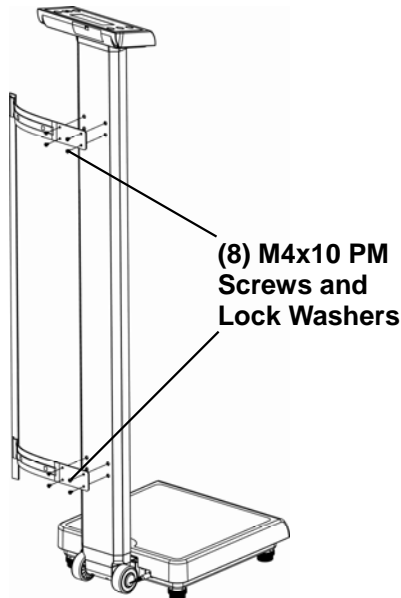

Figure No. 20
4. Align the upper mounting bracket with the holes near the display in the back of the column and install four (4) M4x10 PM screws with lock washers to secure the bracket to the column.
5. Align the holes in the lower bracket with the lower holes in the column and install four (4) M4x10 PM screws with lock washers to secure it to the column. See Figure No. 20.